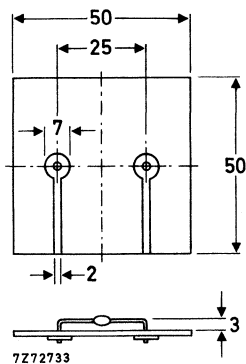

Fig. 2 Mounted on a printed-circuit board.
2. Thermal resistance from junction to ambient when mounted on a 1.5 mm thick epoxyglass printed-circuit board; Cu-thickness $\geq 40\text{ }\mu\text{m}$; Fig. 2 (see "Thermal Model")